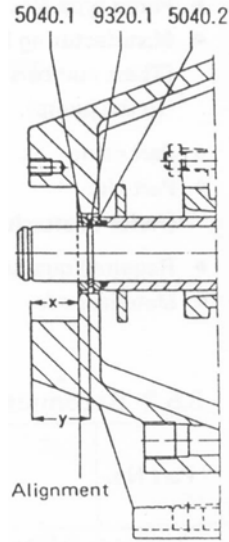

Fig. 6 Correctly sized spacer ring
- (1) Clean adequately each pump component/parts. Prevent adhesion of dust on the connections and joint portions.
- (2) When replacing the ball bearings, use the designated bearing No. without fail (See 3.4).
- (3) Take good care not to damage each O-ring and the sealed contact surface of each parts.
- (4) When replacing the rotating assembly (shaft, impeller, sleeve), determine the dimension (Y-X) of the casing side spacer ring in the discharge side bearing housing in accordance with the procedure shown in Fig. 6. In this case, move reciprocally the rotating assembly from the discharge side to the suction side and vice-versally and determine the dimension of spacer ring based on the center position of the rotating assembly.